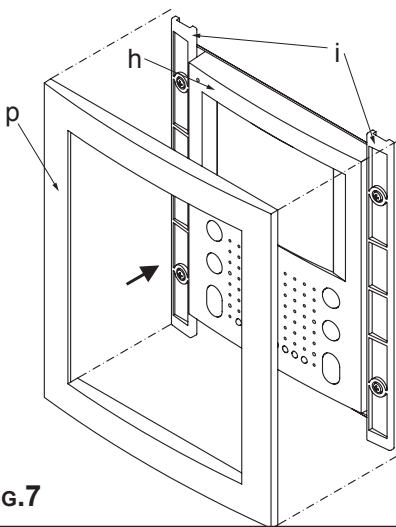

FIG.7
- *As shown on figure 7, align the frame "p" with the brackets "i" then push it toward the wall until the frame is hooked.*